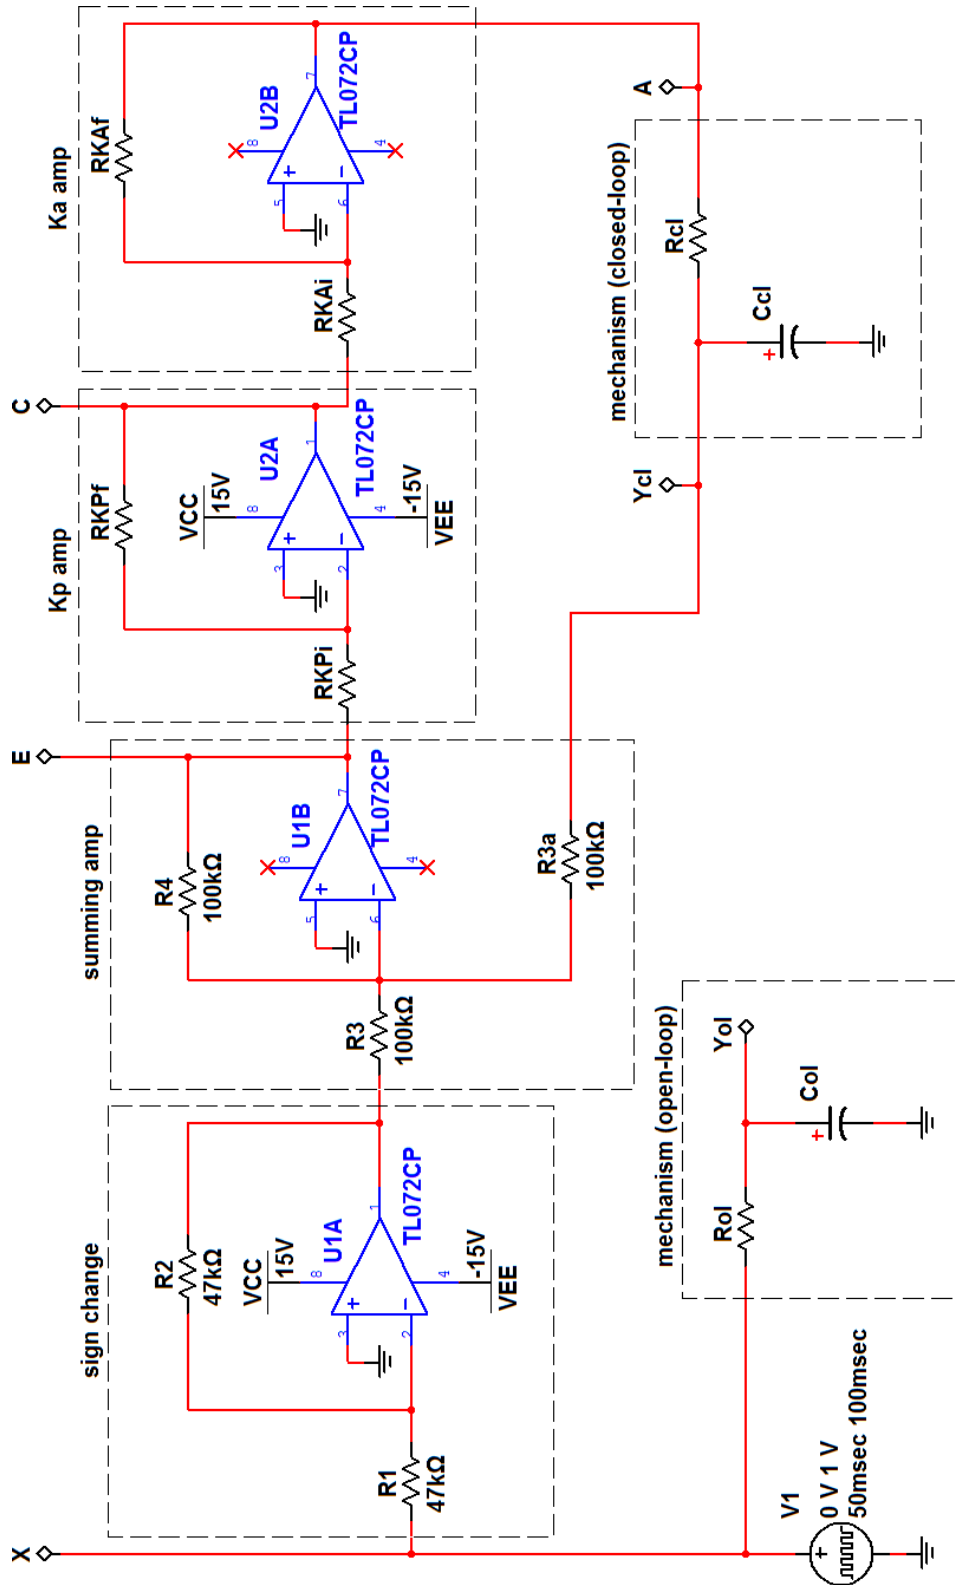

Figure 4.3: Proportional controller at the circuit level.
Figure 4.3 on page 39 shows a circuit implementation of the proportional control system using op-amp circuits from Table 4-3 of your text.
► Enter the circuit of Figure 4.3 on page 39 into NI Multisim. Use the TL072CP dual op-amp model and the PULSE\_VOLTAGE source to apply a unit step control input. Place “on-page connectors” to name the signal nets of interest.
- Build the circuit of Figure 4.3 on page 39: